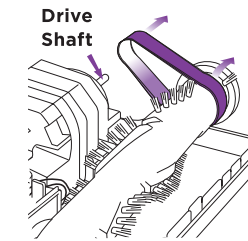

Fig. 24
- 7 Slide the old belt off the drive shaft and then the rotating brush. If the belt is broken, remove all the broken pieces. (Fig. 24)